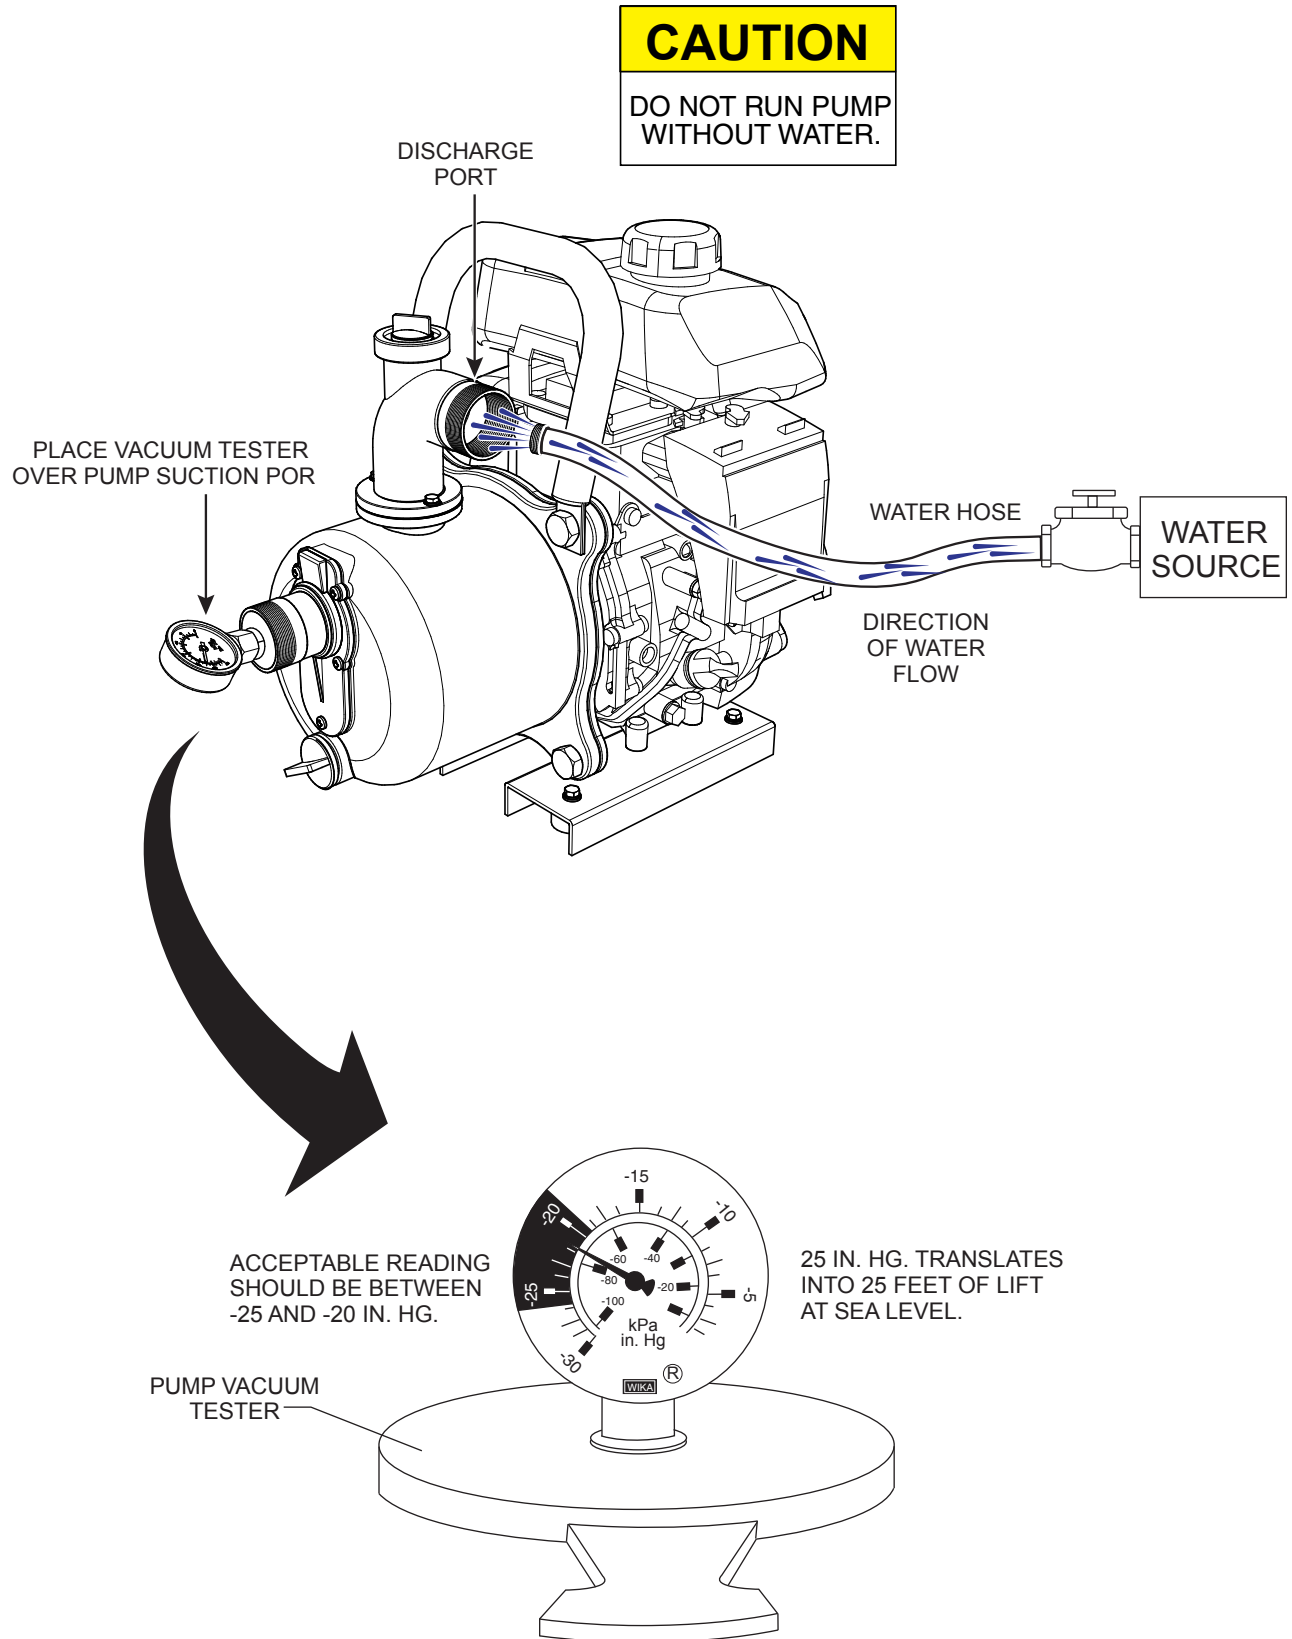

Figure 19. Pump Vacuum Tester
3. As shown in Figure 19, place a water hose inside the discharge opening of the pump, and turn on the water. This flow of water into the discharge opening will **prevent** the pump from running dry.
4. Place the Pump Vacuum Tester (P/N 7000030) over the pump suction (inlet) opening (See Figure 19) with the vacuum gauge facing upwards. It may be necessary to apply a small amount of water around the rubber seal of the vacuum tester to make a good suction fit.